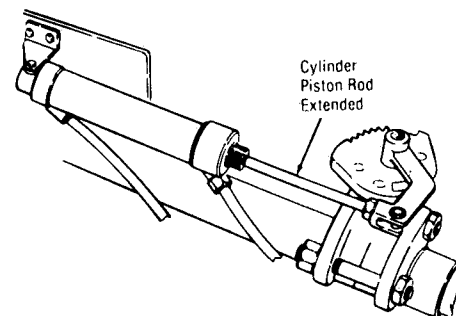

Figure 8-6. BUTTERFLY VALVE LINKAGE.
1. For the valve to be in the normally closed position, the cylinder piston rod must be fully extended from the cylinder. See Figure 8-6.